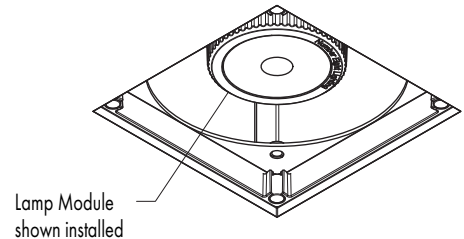

FIG 10.2 Securing Lamp Module to Housing
STEP 3 Plug Wire Connector from Lamp Module into Power Supply Module connector. Push wire up inside housing to avoid interference with LED - **FIG 10.2**.